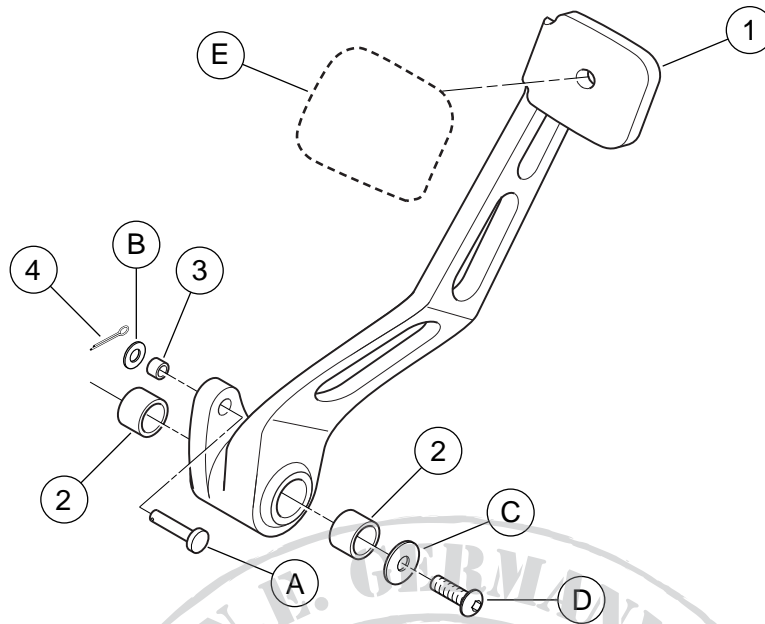

Figure 1. Service Parts: Billet Style Rear Brake Lever
See Figure 1 and Table 1.
1. See Figure 1. Remove the cotter pin and washer from the master cylinder clevis pin. Discard the cotter pin.